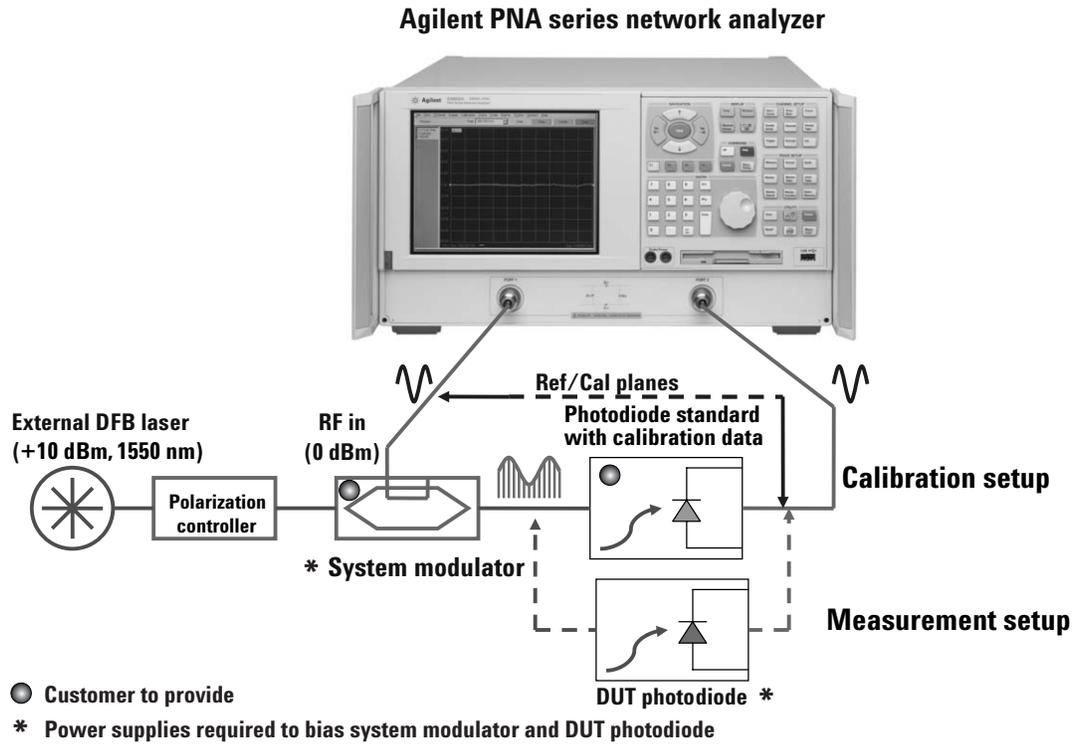

Figure 5. Photodiode measurement
2. With the modulator in place, a photodiode standard (with calibration data) is used to calibrate (Data/Mem) the system. See Figure 5 for details.
3. The photodiode standard is then replaced with the O-E DUT (photodiode). The resulted measurements will be relative to the photodiode standard. See Figure 5 for details.